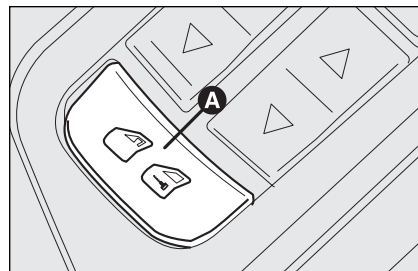

fig. 13
- button **A**-fig. 13 for locking/unlocking the doors, placed on the driver door panel mask;